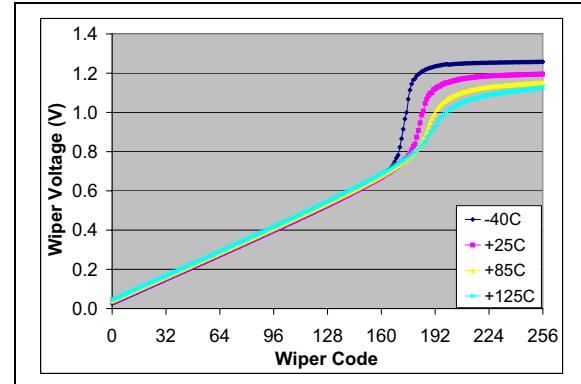

**FIGURE B-7:** Wiper Switch.
Figure B-6 shows a block diagram of the resistor network where the  $R_{AB}$  resistor is a series of 256  $R_S$  resistors. These resistors are polysilicon devices. Each wiper switch is an analog switch made up of an NMOS and PMOS transistor. A more detailed figure of the wiper switch is shown in Figure B-7. The wiper resistance is influenced by the voltage on the wiper switches nodes ( $V_G$ ,  $V_W$  and  $V_{WCn}$ ). Temperature also influences the characteristics of the wiper switch, see Figure B-4.
The characteristics of the wiper are determined by the characteristics of the wiper switch at each of the resistor networks tap points. Figure B-7 shows an example of a wiper switch. As the device operational voltage becomes lower, the characteristics of the wiper switch change due to a lower voltage on the  $V_G$  signal.
**Figure B-7** shows an implementation of a wiper switch. When the transistor is turned off, the switch resistance is in the Giga  $\Omega$ s. When the transistor is turned on, the switch resistance is dependent on the  $V_G$ ,  $V_W$  and  $V_{WCn}$  voltages. This resistance is referred to as  $R_W$ .